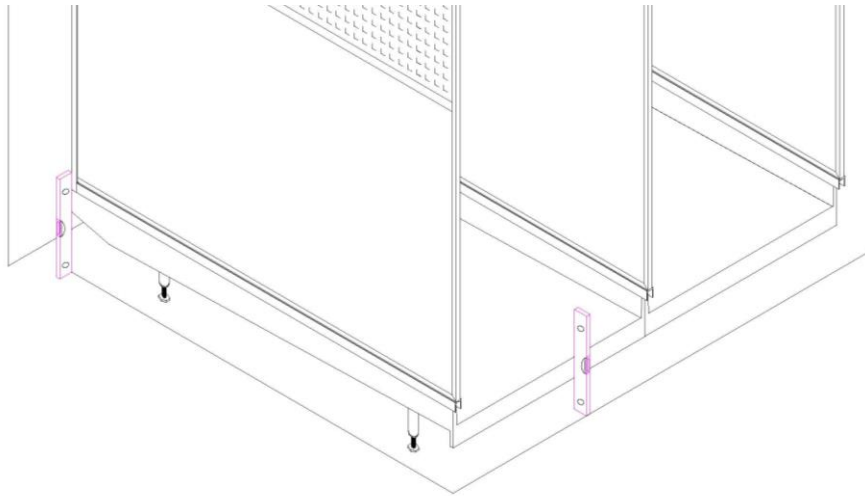

Fig. 14
1. Use a level and chalk line to mark the floor location of Side Trim Panel aluminum angle supports. See Fig. 14.